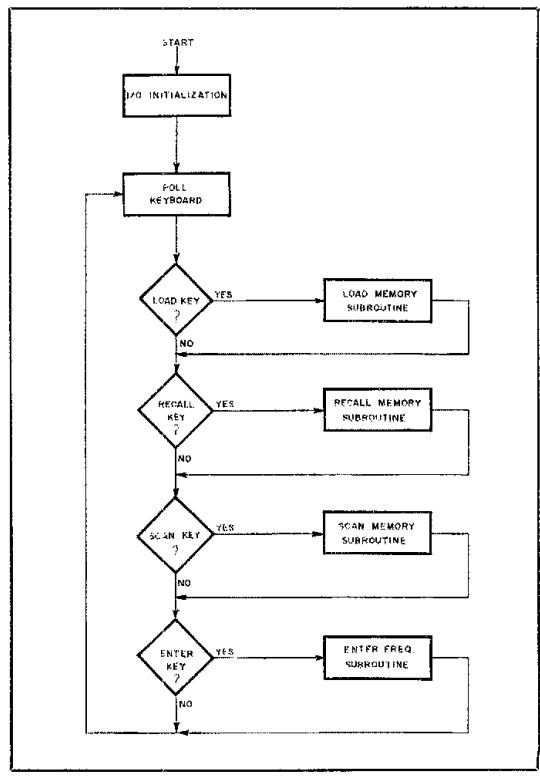

Fig. 6 — Simplified flow chart of the Micro-3 program designed for use with the IC-701 transceiver.
Local Oscillator: A 64-MHz crystal oscillator, a frequency tripler and two amplifier stages comprise the local-oscillator (LO) chain. (Fig. 6). The oscillator voltage is regulated at 8.2, and the oscillator output is routed to the
The program functions are divided into separate subroutines, each responsible for performing a distinct operation. Essentially, the main program waits with a keyboard scanning routine until one of the six function keys is activated. Then it decides which subroutine to access, and the selected subroutine takes over from there. Fig. 6 is a simplified flow chart of the procedure.